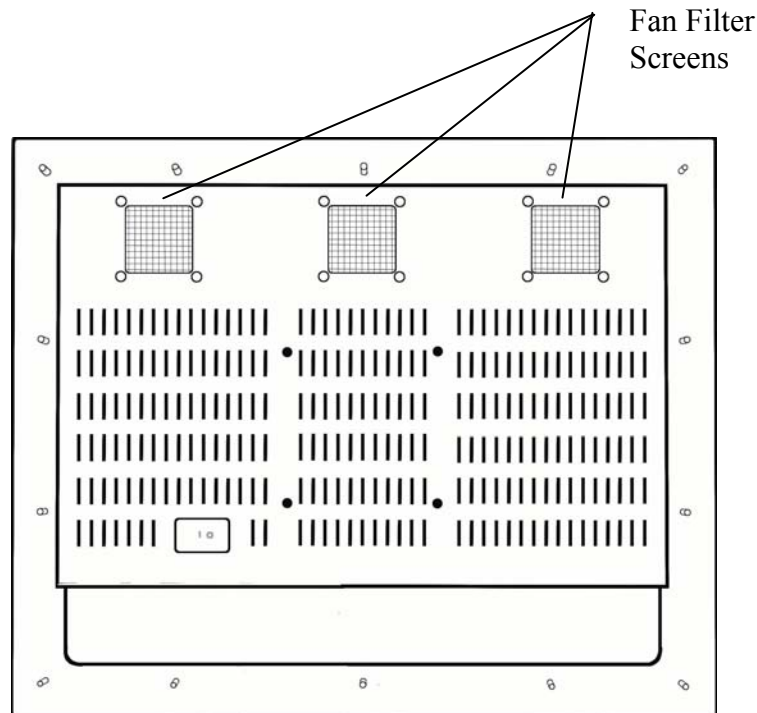

Figure 40: Cleaning Fan Filters
4. Carefully run a vacuum hose (using a crevice attachment is ideal) over the protective fan filter screens (Figure 40) to remove dust and debris from the protective covers and underlying fan filters themselves.